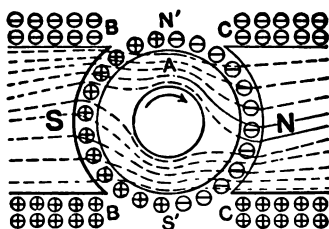

Fig. 234. Combined Field and Armature Fluxes.
*Sparkless Reversing.* The conditions when current flows through an ordinary series motor ready to operate in a direction opposite to the indication of the arrow are shown in Fig. 234.
The magnetic flux takes the peculiar direction shown in Fig. 234 due to the interaction of the field and armature fluxes.
Looking back at Figs. 134 and 135 you will see that it is natural that when these fluxes occur at the same time, the N' would attract the S flux, and the S' pull the N flux so that the resultant or machine flux would be as in Fig. 234.
If the flux were like Fig. 234 upon reversal of the armature current the flux would twist in the other direction, but if the flux were like Fig. 232 the reversal has no effect.